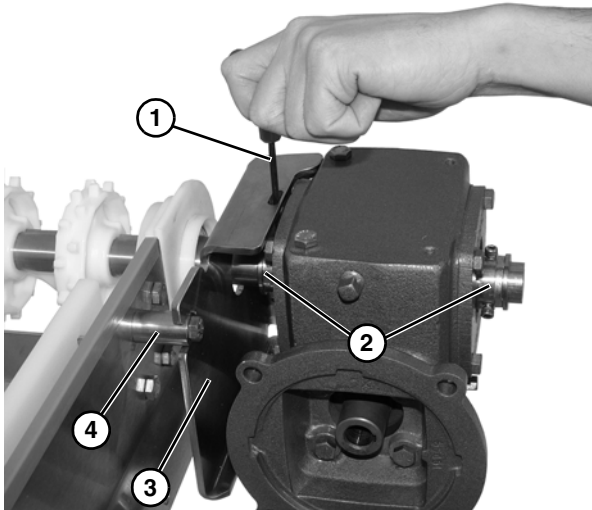

Figure 22
4. Use a hex key wrench (**Figure 22, item 1**) to remove set screws on both bearings (**Figure 22, item 2**). Slide gear reducer and mounting bracket (**Figure 22, item 3**) from spacer (**Figure 22, item 4**) on conveyor.